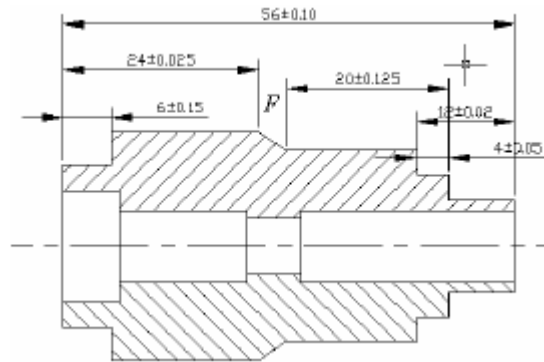

Fig. 3
b) Fig.3 shows a part design with assigned tolerances. Use the arithmetic method to calculate the tolerance information for the axial dimension F of the outside surface shown.